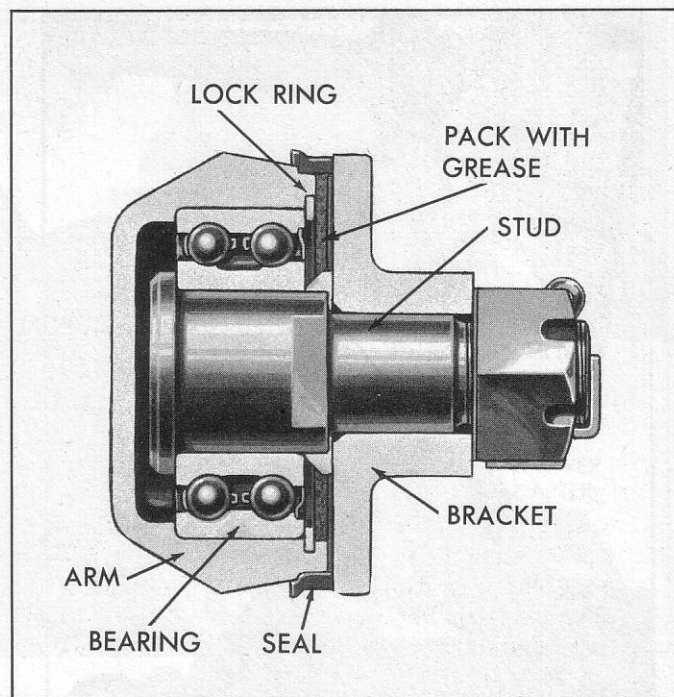

Fig. 18—Cross-Section of Steering Idler and Third Arm
Disassembly (fig. 18)
1. Pack the cavity between bearing lock ring and outer edge of arm opening with cup grease. Also position the seal around this outer edge of arm opening (fig. 18).